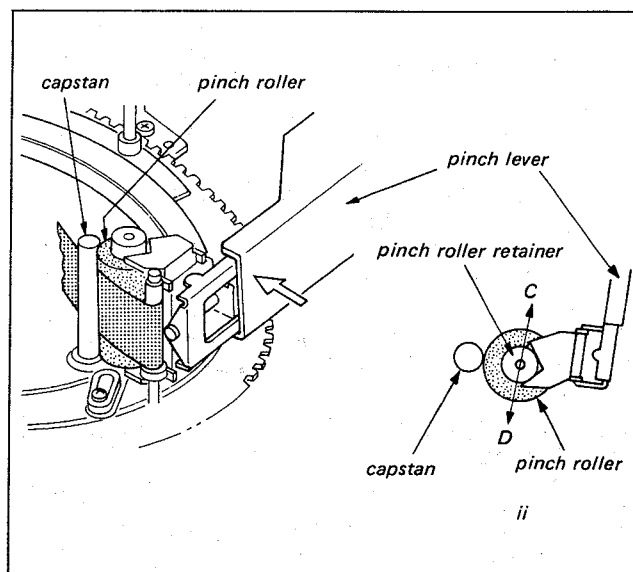

Fig. 6-5. Pinch roller slanting adj.
- Press the Pinch Lever lightly with finger in the direction shown by the arrow in Fig. 6-5 until the clearance between the Pinch Roller and the Capstan is 0.5mm.